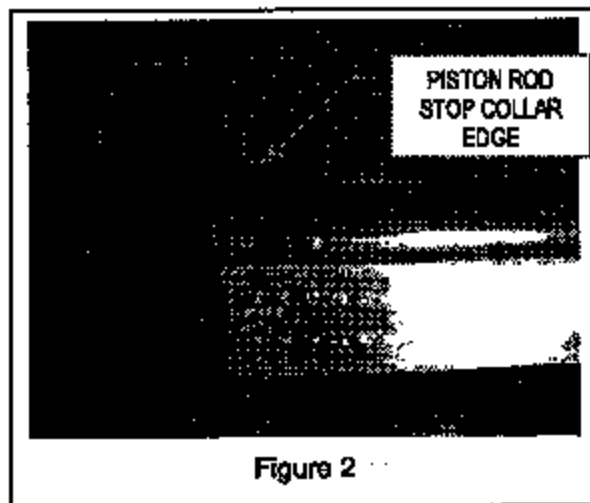

Figure 2
3. For Daytec Chopper models only, measure the overall length of the metal hard stop and the mounting strap to which it is welded. If the overall length is less than 0.75" (3/4"), replace it with a new hard stop/strap of the correct length, p/n BDM130-00256. See Figure 2